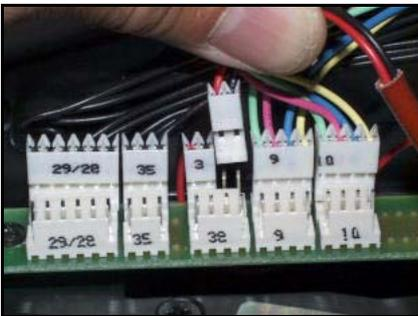

Fig. 1 Unplug left junction print
- 2 Disconnect plugs 28/29, 9, and 10 from the inside row of the left-side zoom module junction print. (Fig. 1)